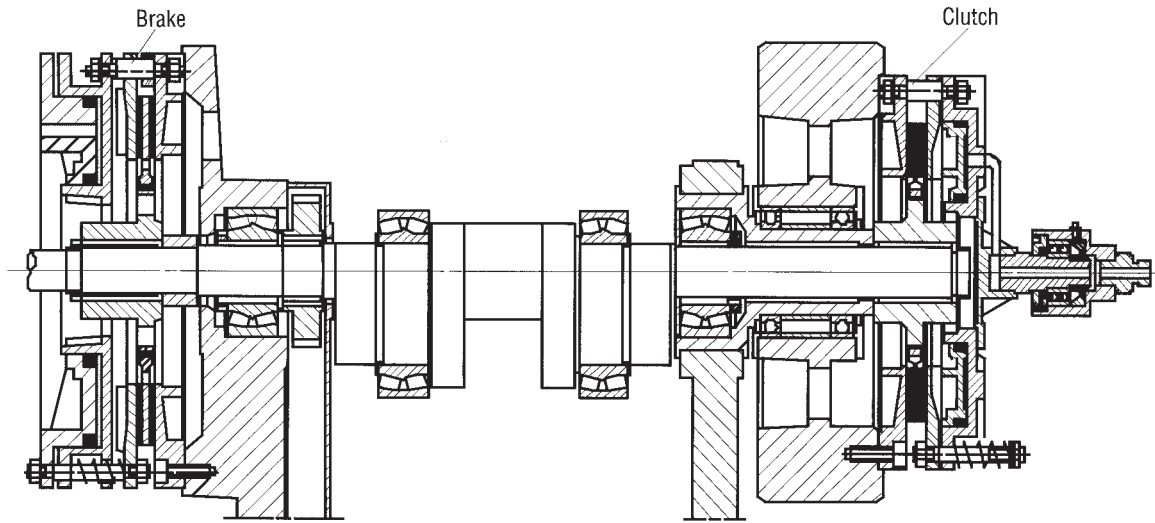

Fig. 2: Separate clutch/brake system
- Presses with a separate clutch and brake system (Fig. 2)